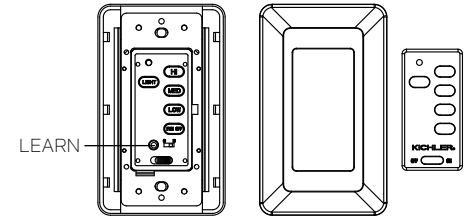

Fig. 30
Step 1. After installation is complete, press the LEARN button for 3 seconds within 30 seconds once AC power is turned on. Fan will turn on at medium speed and light (if installed) will turn on. This confirms that the SMART SYNC setting is active and ok. (Fig. 30)
Restore power to ceiling fan and test for proper operation (Fig. 30)